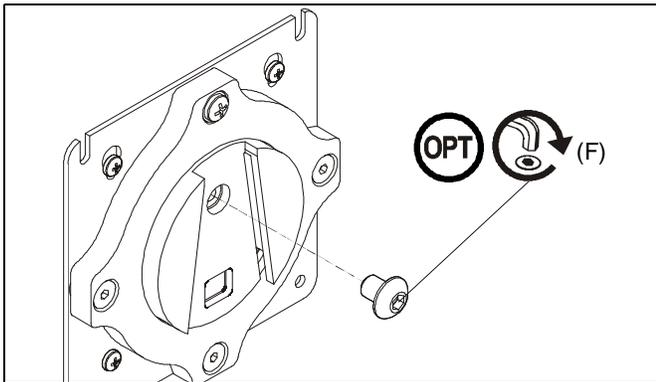

Figure 6
**NOTE:** (Optional) Rotational adjustment may be locked by installing rotational locking screw (F) into back of faceplate. (See Figure 6)
1. The monitor may be adjusted 90 degrees in either direction in order to provide a portrait view of the monitor. (See Figure 6)
2. Use 3/16" hex key (H) to adjust rotational adjustment screw to adjust rotational tension. (See Figure 6)